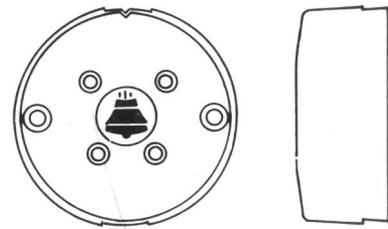

Fig. 31—549A-Type Jack
2.27 549A-49 and -50: The nonflush-type jacks (Fig. 31) consist essentially of a block of insulating material containing four intermeshed coil spring contacts. The associated 283B or 505A plugs can be inserted in one position only. These jacks are mounted on the woodwork at the subscribers station and used with portable telephone sets having two, three, or four conductor mounting cords.